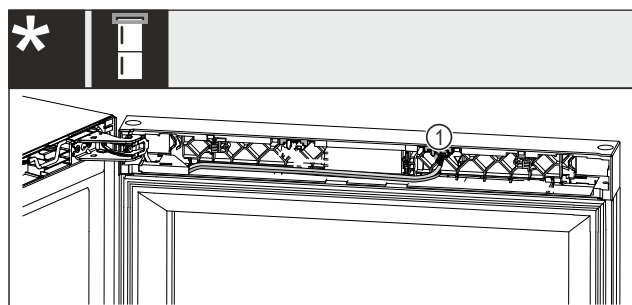

Fig. 19 Wine-freezer combinations
- ▶ Pull the plug Fig. 19 (1) out of the retaining clip.